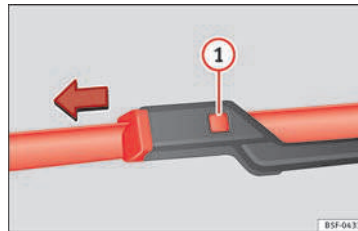

Fig. 75 Changing the windscreen wiper blade.
- Press the securing tab down ① » **Fig. 75.**